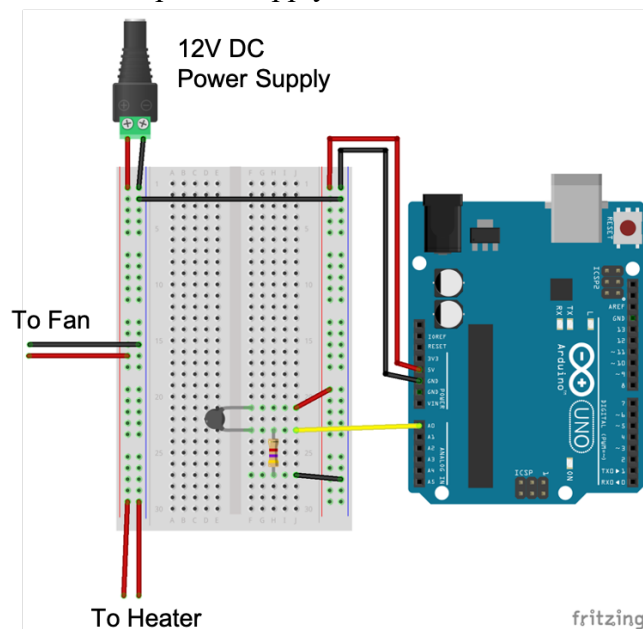

Figure 5 – The vertical bus lines on the left side of the breadboard are powered by the 12V DC power supply. Both sides share a common ground.
3. Switch the DC power supply OFF, and make the following connections illustrated in Fig. 5.
- b. Connect the negative bus line on the right side to the “common ground” bus line on the right side, as shown in Fig. 5. That is, both negative vertical bus lines should be connected to GND on the Arduino.
7. Use male-male jumper wires to connect the blower fan to the 12V DC bus line, as shown in Fig. 5.
8. The red wires coming out of the sample are the heater wires. Connect the heater wires to the 12V bus lines, as illustrated in Fig. 5.